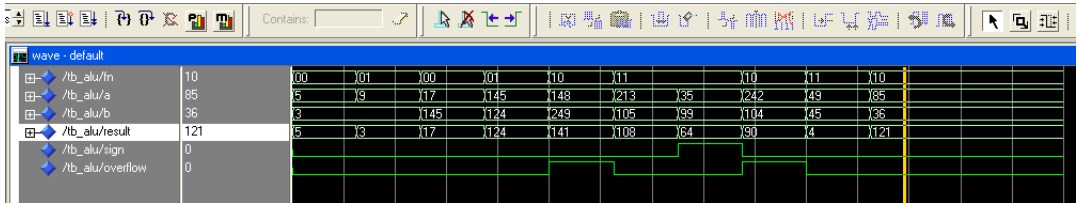

Figure 2: Waveforms after simulation of ALU in Modelsim
**Task 4** Make a new project in Modelsim and add “alu.vhd” and “tb\_alu.vhd” into your project. Compile the files and run a simulation. To add the waveforms and perform the simulation for a period of time, a set of scripts are provided in the file “alu\_sim.do” in the lab directory. When the wave window is open in Modelsim, write the following command in the command line. That will add the required signals and will run the simulation for 300 ns. You should then see the waveforms as shown in Figure 2.
- Task 4** Make a new project in Modelsim and add “alu.vhd” and “tb\_alu.vhd” into your project. Compile the files and run a simulation. To add the waveforms and perform the simulation for a period of time, a set of scripts are provided in the file “alu\_sim.do” in the lab directory. When the wave window is open in Modelsim, write the following command in the command line. That will add the required signals and will run the simulation for 300 ns. You should then see the waveforms as shown in Figure 2.